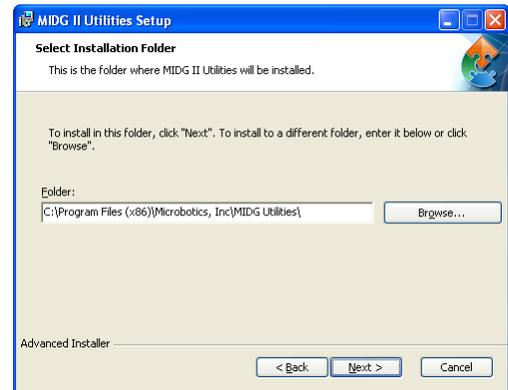

Figure 6. Select destination folder screen
- 7. **Select the destination folder for the installation program.** Figure 6 shows the default path for the installation. However, the user may specify any location desired.